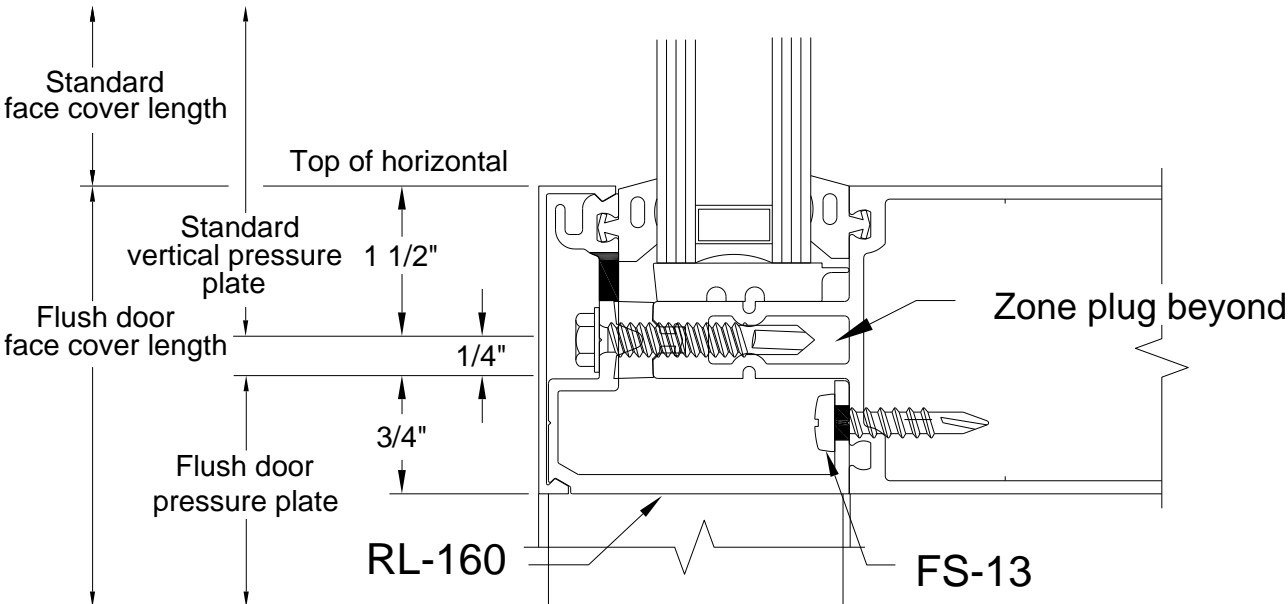

Figure 61: Vertical Face Cover Location at Door Header
- B2.7 Install face covers onto pressure plates. See *Figure 61*.